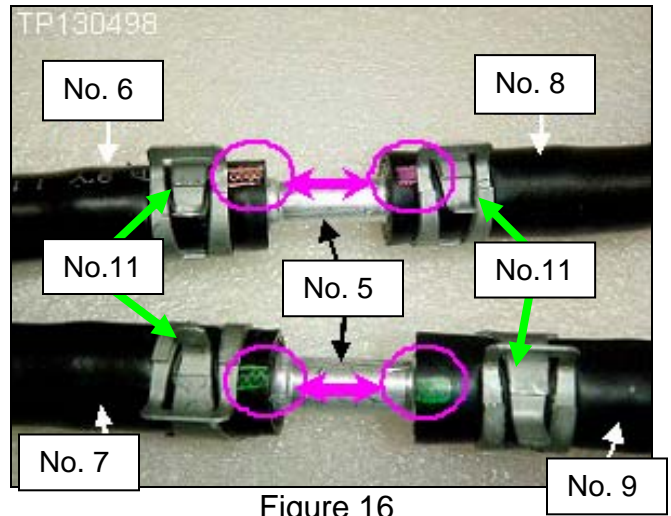

Figure 16
- Match the color marks on the hoses and rotate until the marks are aligned (Figure 16).